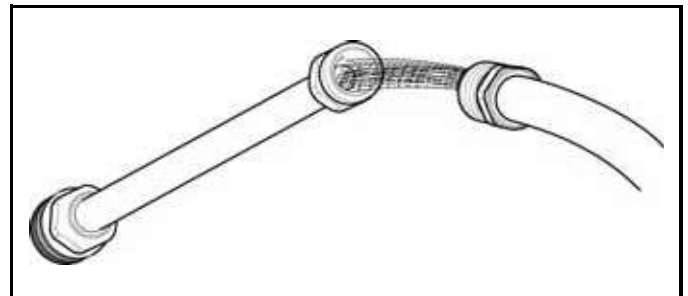

Figure 6-4. Back Flush Lance
6. Using a garden hose, remove additional debris by back flushing water through lance (Figure 6-4). Back flush between 30 to 60 seconds.